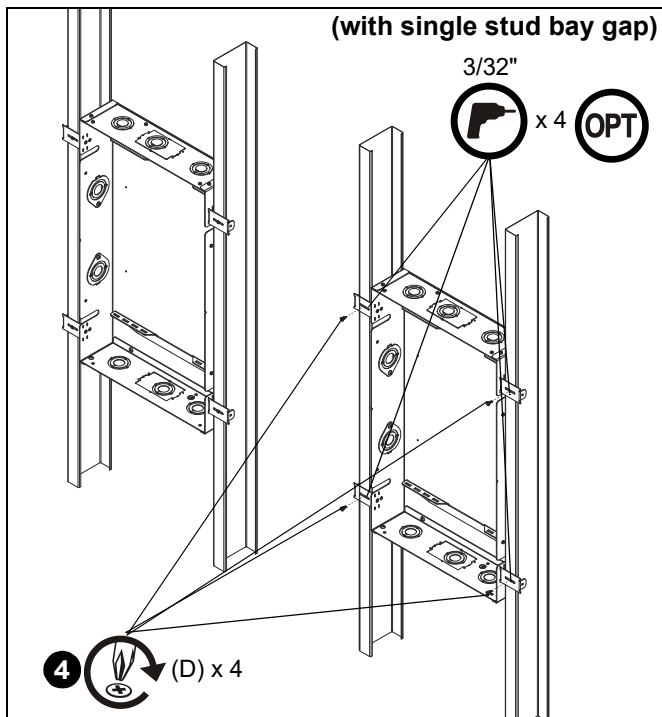

Figure 5
4. If installing with a gap, repeat Steps 2-3 for second box (A) and to secure to studs. (See Figure 5)